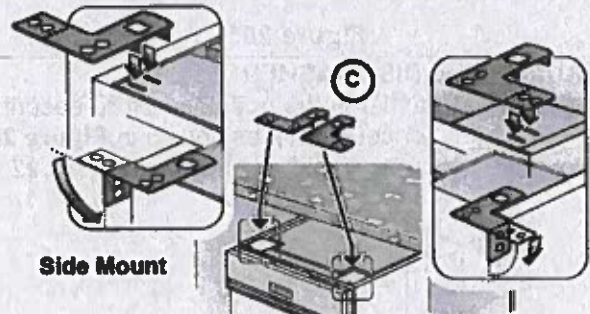

Figure 18
**Side Mount** is used for countertops made of marble, granite, or other very hard materials that cannot be easily drilled. Bend the mounting brackets along the small holes and in the same direction as the two small tabs. Orient the mounting brackets as shown in Figure 18, and position the two small tabs on the mounting brackets over the two slots on the dishwasher's front corners. Push the mounting brackets down firmly to insert the tabs into the slots. Bend perforated edge down as shown.